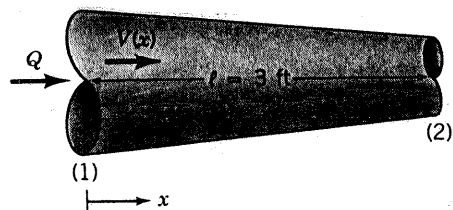

FIGURE P3.1
3.1 Water flows steadily through the variable area horizontal pipe shown in Fig. P3.1. The velocity is given by $V = 10(1 + x)$ ft/s, where x is in feet. Viscous effects are neglected. (a) Determine the pressure gradient, $\partial p / \partial x$, (as a function of x) needed to produce this flow. (b) If the pressure at section (1) is 50 psi, determine the pressure at (2) by: (i) integration of the pressure gradient obtained in (a); (ii) application of the Bernoulli equation.